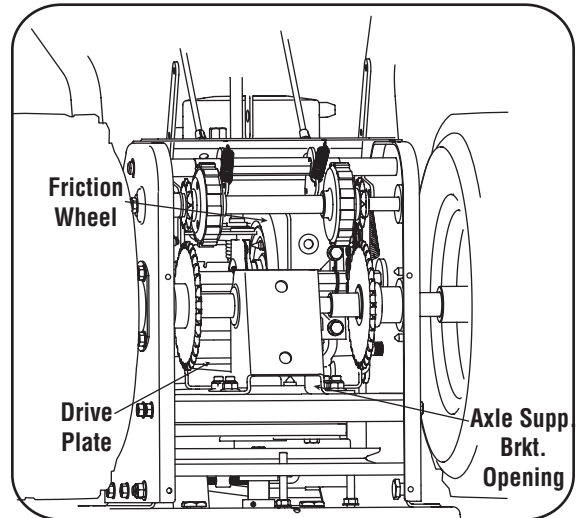

Figure 17
4. With the wheel drive control released, check if there is clearance between friction wheel and drive plate in all positions of the shift lever. See Figure 17.
5. With the drive control lever engaged, check if the friction wheel solidly contacts the drive plate. See Figure 17. If not, adjust as follows: